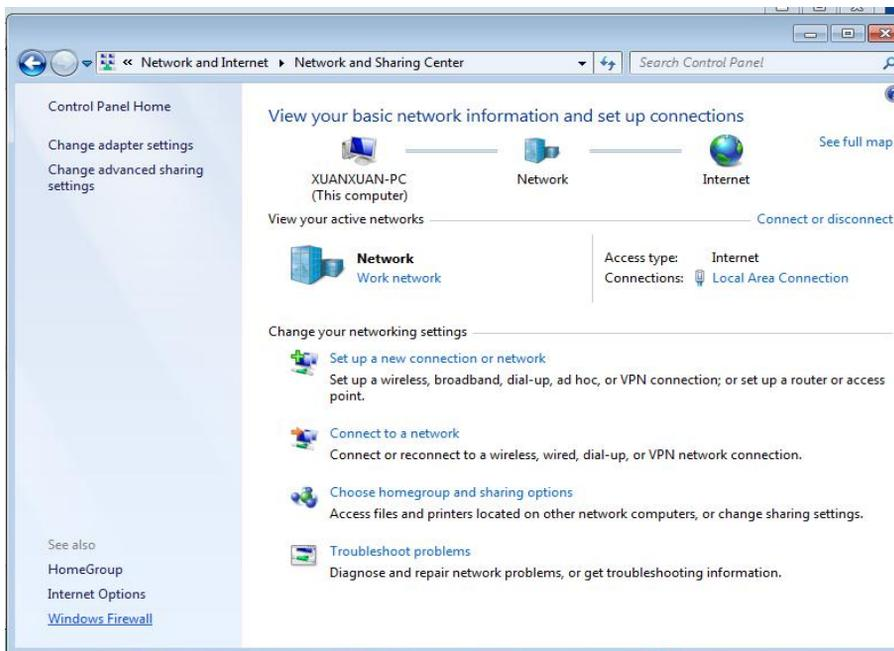

Fig.1.16 Network and Sharing Center
(3) Click "Windows Firewall" (see Fig.1.16).